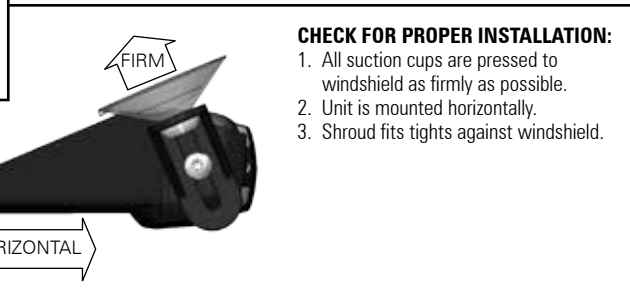

Figure 2.
- 2) Lightly moisten suction cups and press unit firmly in place by pressing the domed shape on the back of each cup (See Figure 2.)